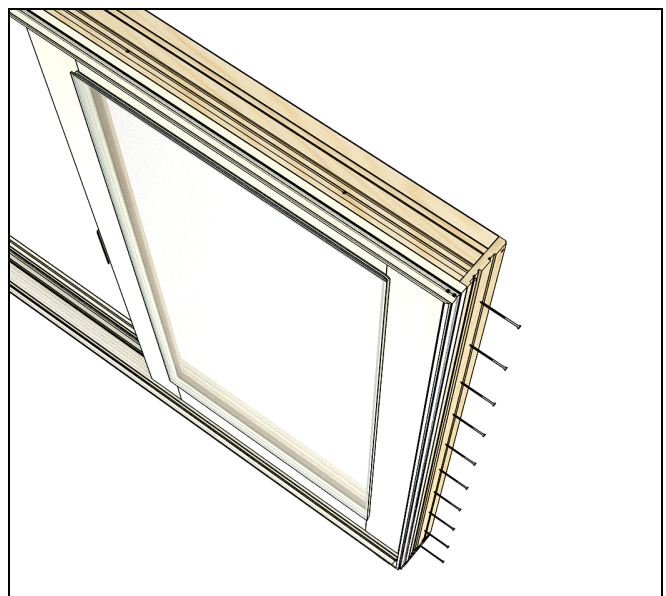

Figure 20
7. Locate pre-drilled installation holes on the exterior of the jamb. Use #8 X 3" screws to fasten the stationary panel through the jamb. See Figure 20.